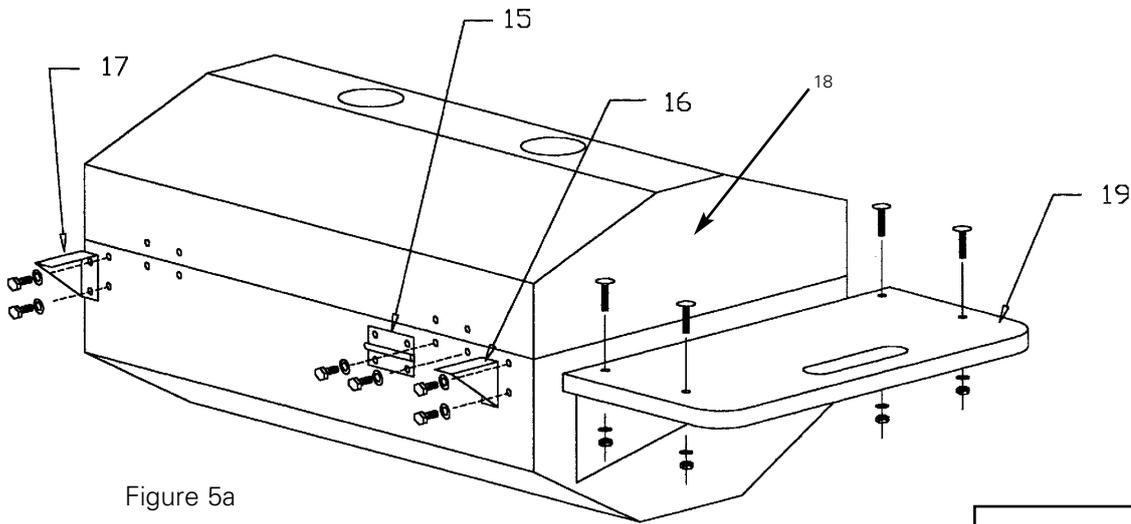

Figure 5a
- Refer to Fig. 5a
6. Refer to figure 5a